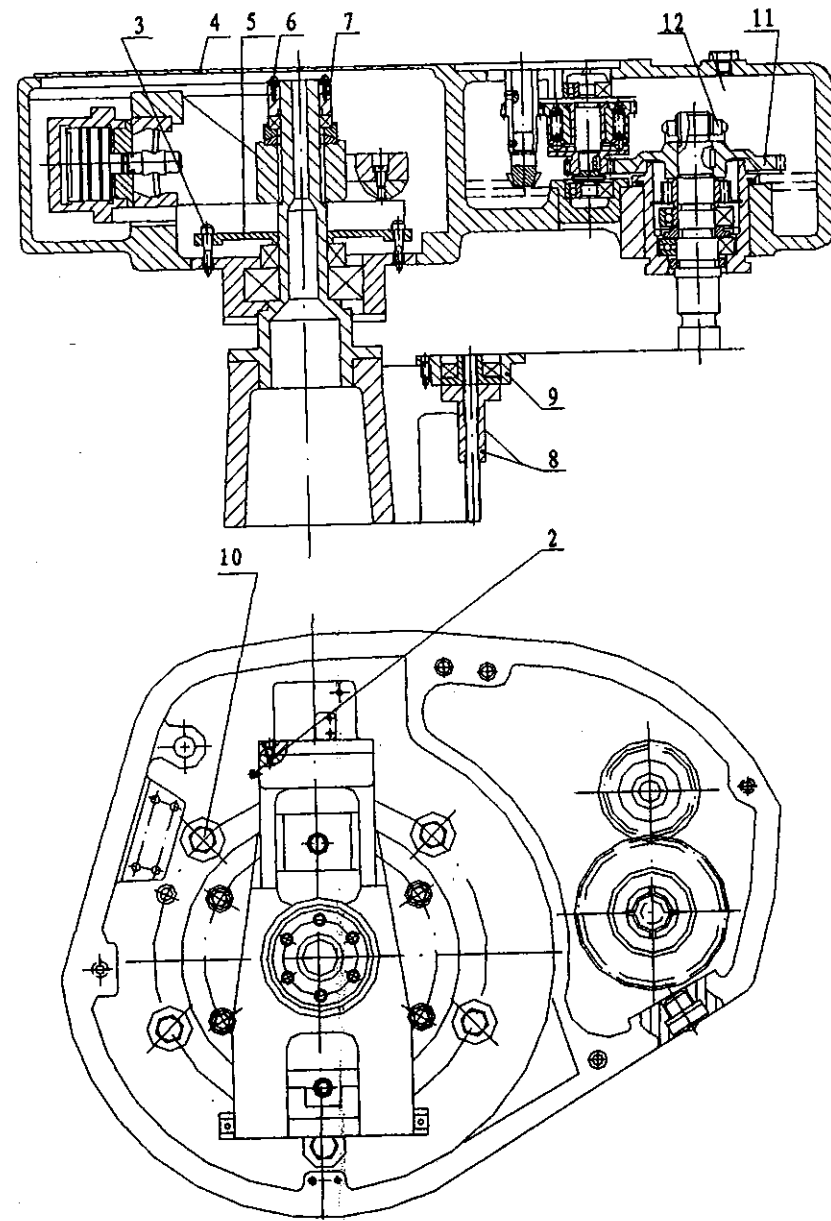

Fig. 7.2 Upright Clamping
7.2.2 The adjustment of column clamping force (Fig. 7.2)